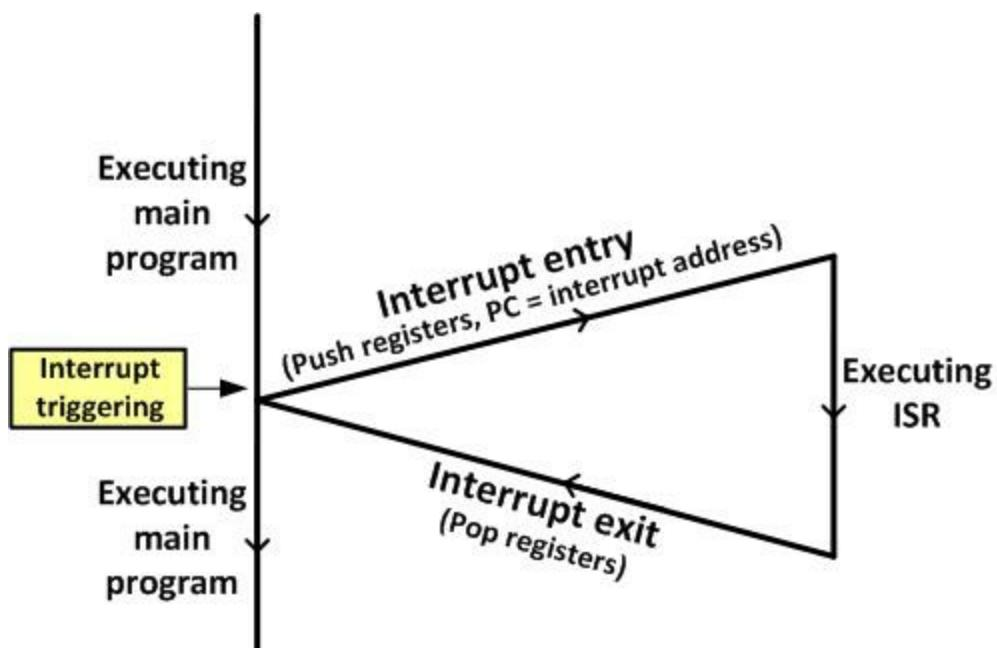

Figure 6-5: Main Program gets Interrupted
13. When one of the return instructions is executed in the interrupt service routine, the CPU recognizes that it is in the Handler Mode from the value of the LR. It then restores the registers saved when entering ISR including the program counter from the stack and makes the CPU run the code where it left off when interrupt occurred. See Figure 6-5.